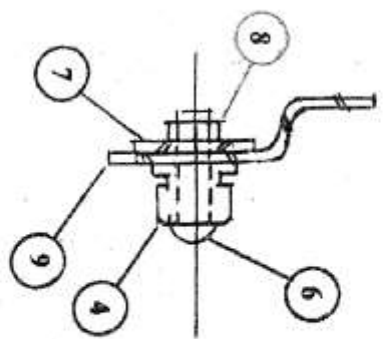

fig 2
2. Install the docking plate to the RH side of the backrest using the front docking post and rear docking post attached with (1) 3/8 polished SS button head bolt and (1) 3/8 nylon locking nut each. Torque to 12 ft. lbs. (See fig 1 and fig 2) **Note:** Install the docking plate with the white strips facing the fender on the top and to the rear. Center the middle hole in the plate so the 10 mm spacer will fit in the hole when you reattach the backrest to the motorcycle.